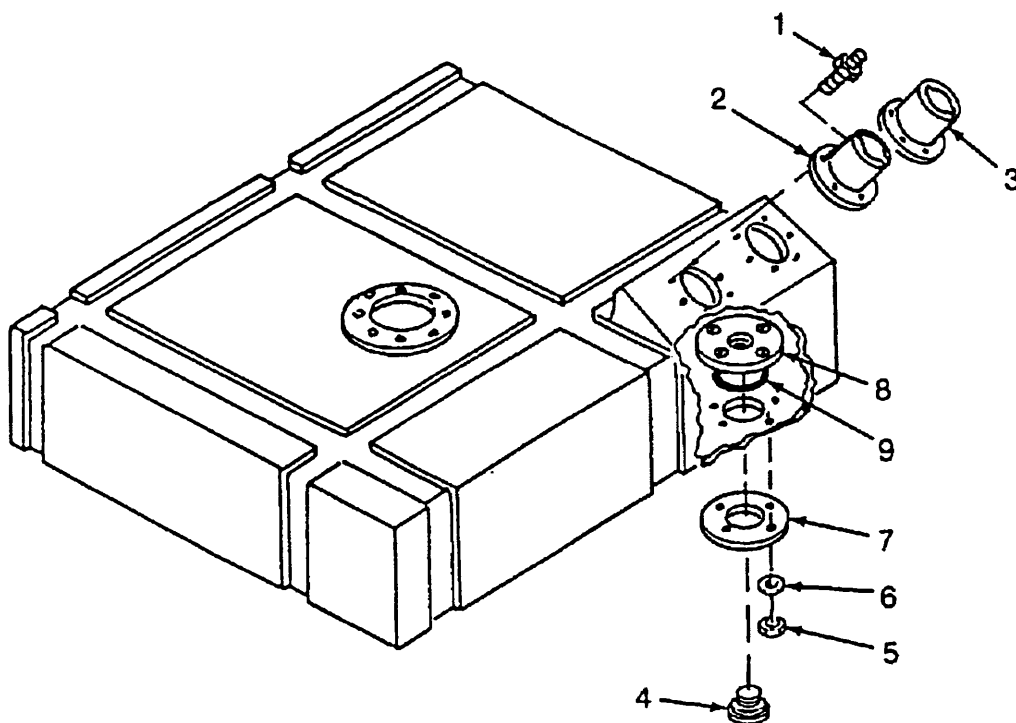

Figure 4-70. Fuel Tank Disassembly
- b. Disassembly - continued (Refer to Figure 4-70)
- (5) Remove twelve space adapters (1), filler neck (2) and fuel gage neck (3).
- (6) Remove drain plug (4).
- (7) Remove four lock nuts (5), four flat washers (6) and washer ring (7).
- (8) Remove drain port (8) and preformed packing (9). Discard preformed packing.